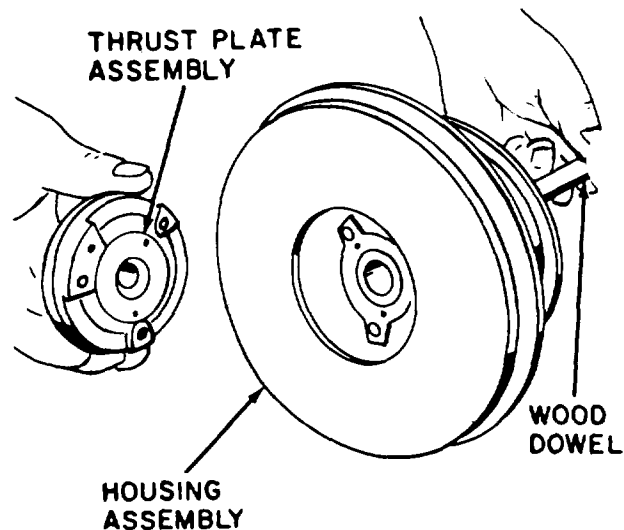

Figure 8-18. Removing thrust Plate
f. Thread supporting screw into base of fixture to contain turbine wheel and shaft when pressed from wheel (48), Leave a space between end of screw and turbine wheel. Approximately 1/2-inch of shaft and turbine wheel movement is required to free them from wheel.
g. When removing wheel (48), remove nut (47) and then position compressor end of housing in a hot oil bath so only wheel is immersed. Heat wheel to 350°F for not longer than 10 minutes. Remove unit from oil bath and press shaft and turbine wheel (60) as a unit from wheel (48).
h. Use the wood dowel to remove thrust plate assembly from center housing. Refer to figure 8-18,